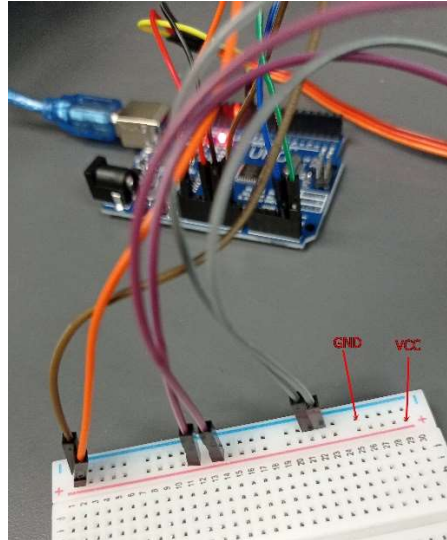

Fig. 7: Connection on the bread board
- c. Use breadboard to connect the VCC and GND as shown in the Fig. 7.